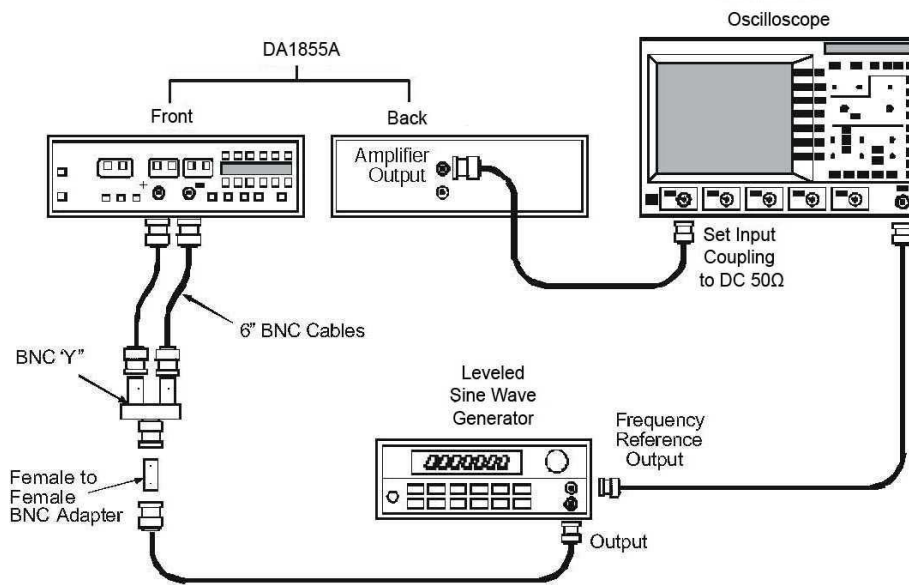

Figure 21, LF CMRR Check Setup
- h. Connect the two free ends of the 6" BNC cables to the +INPUT and -INPUT of the DA1855A. Refer to Figure 21.
- k. Set the oscilloscope to display channel 1, coupling to DC and impedance to 50 Ω and the vertical sensitivity as necessary to measure the amplitude of the displayed waveform. Refer to Figure 21
- u. Remove the sine wave generator output cable and reconnect it to the female to female BNC adapter and cables attached to the DA1855A inputs. Refer to Figure 21.